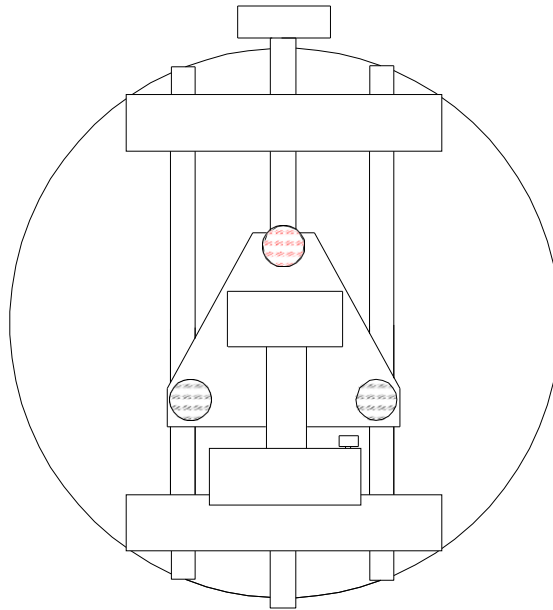

Figure 13
- 3) Rotate the wheel clamp until the clamping knob is at a 12:00 o'clock position (Fig 13). Set the caster bubble to zero on the caster scale; this is done with the caster adjustment knob, which is located on body of the TLT-30.
1. Place the bar in front of the wheels as shown in Figure 13 with the red side on the right side.